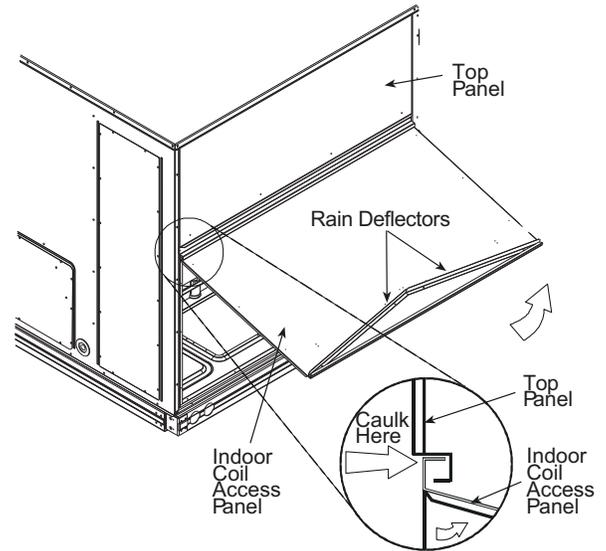

Fig. 17 – Indoor Coil Access Panel Relocation
1. The indoor coil access panel will be used as the top of the hood. If the panel is still attached to the unit, remove the screws along the sides and bottom of the panel. See Fig. 17.
7. Install the 2 rain deflectors on the edge of the hood top as shown in Fig. 17.
8. Caulk the ends of the joint between the unit top panel and the hood top as shown in Fig. 17.